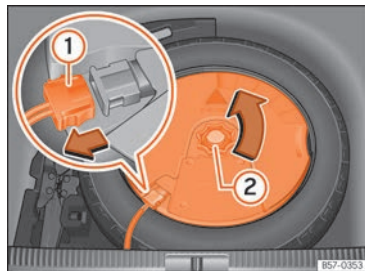

Fig. 223 In the luggage compartment: remove the subwoofer.
- Disconnect the *subwoofer* »» Fig. 223 ① speaker cable.
- Turn the securing wheel in an anti-clockwise direction »» Fig. 223 ②.